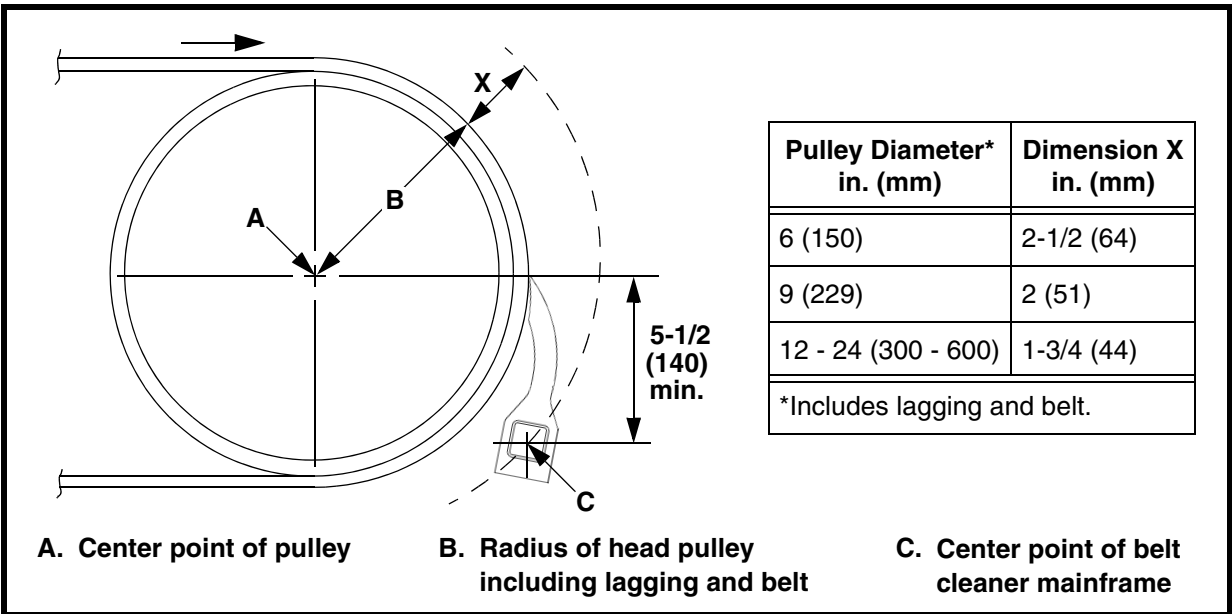

Figure 1. Belt Cleaner Mainframe Location
- 1. On operator side of chute wall, mark vertical and horizontal center line of head pulley to find pulley center point (A).
- 2. Measure radius of head pulley including lagging and belt thickness (B). To this dimension, add dimension X from the table in Figure 1.